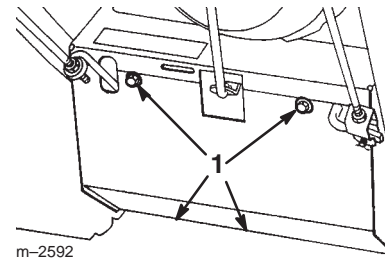

Figure 26
4. Remove the four flange-head bolts that secure the bottom cover to the frame and remove the cover (Fig. 26).
8. Remove the four flange-head bolts that secure the bottom cover to the frame and remove the cover (Fig. 26).
5. Remove the four flange-head bolts that secure the bottom cover and remove the cover (Fig. 26).